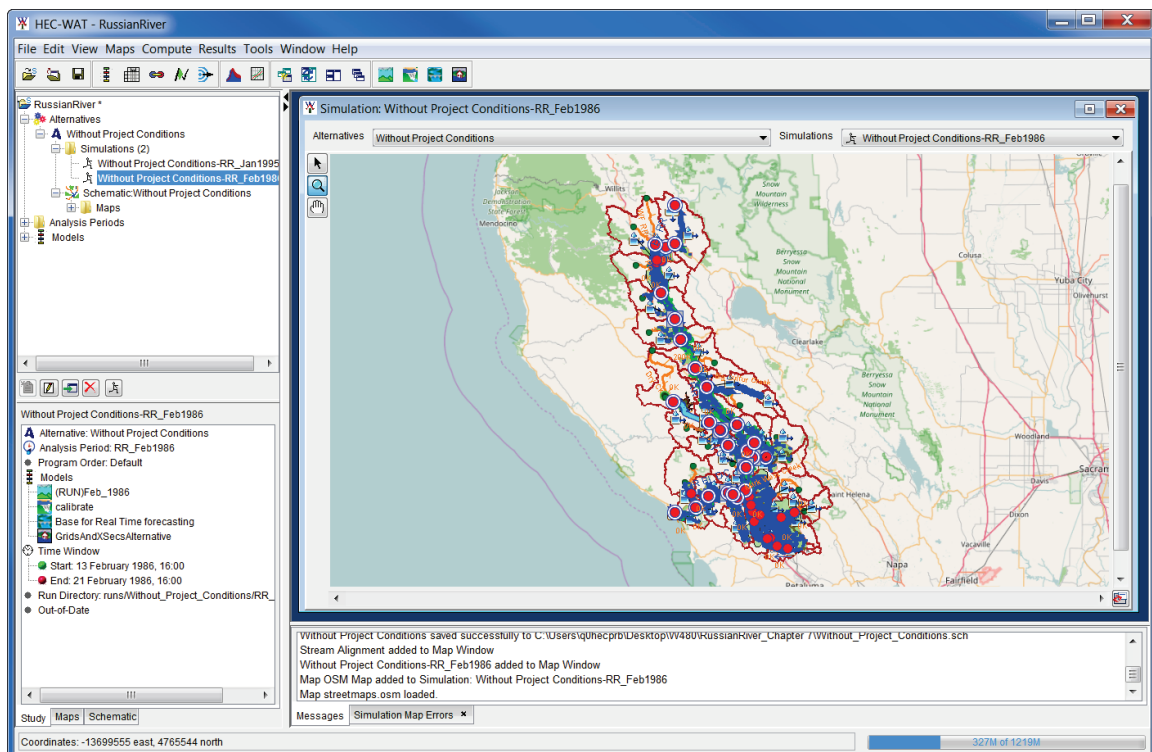
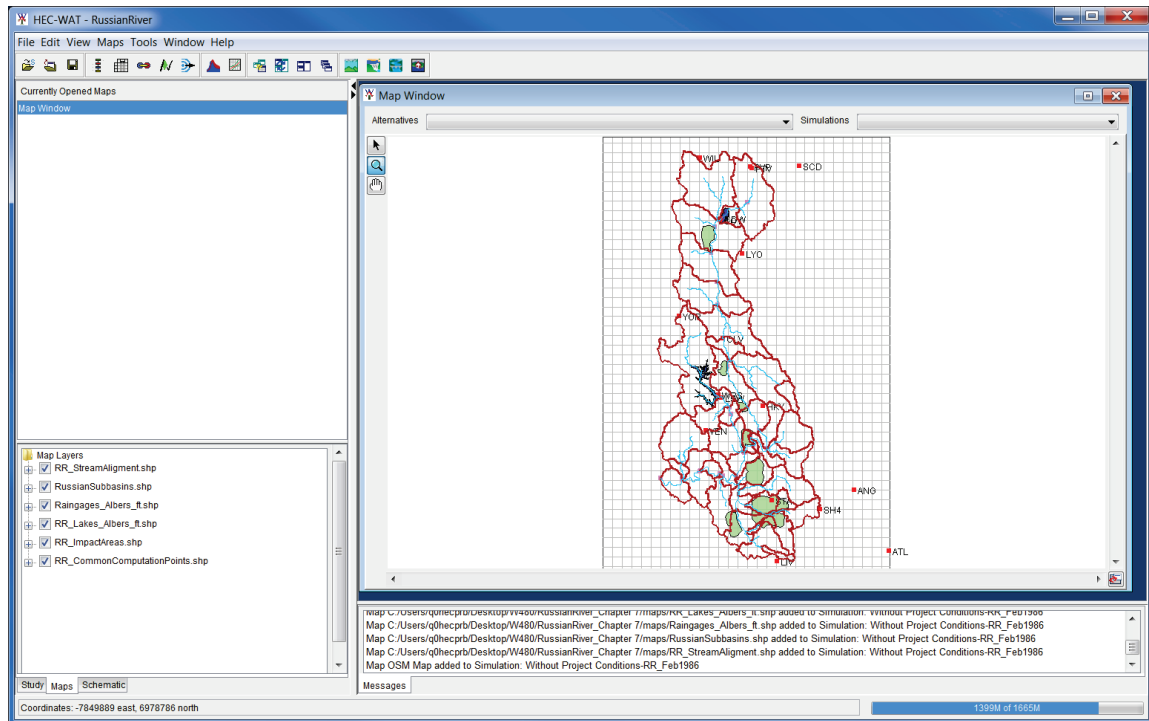
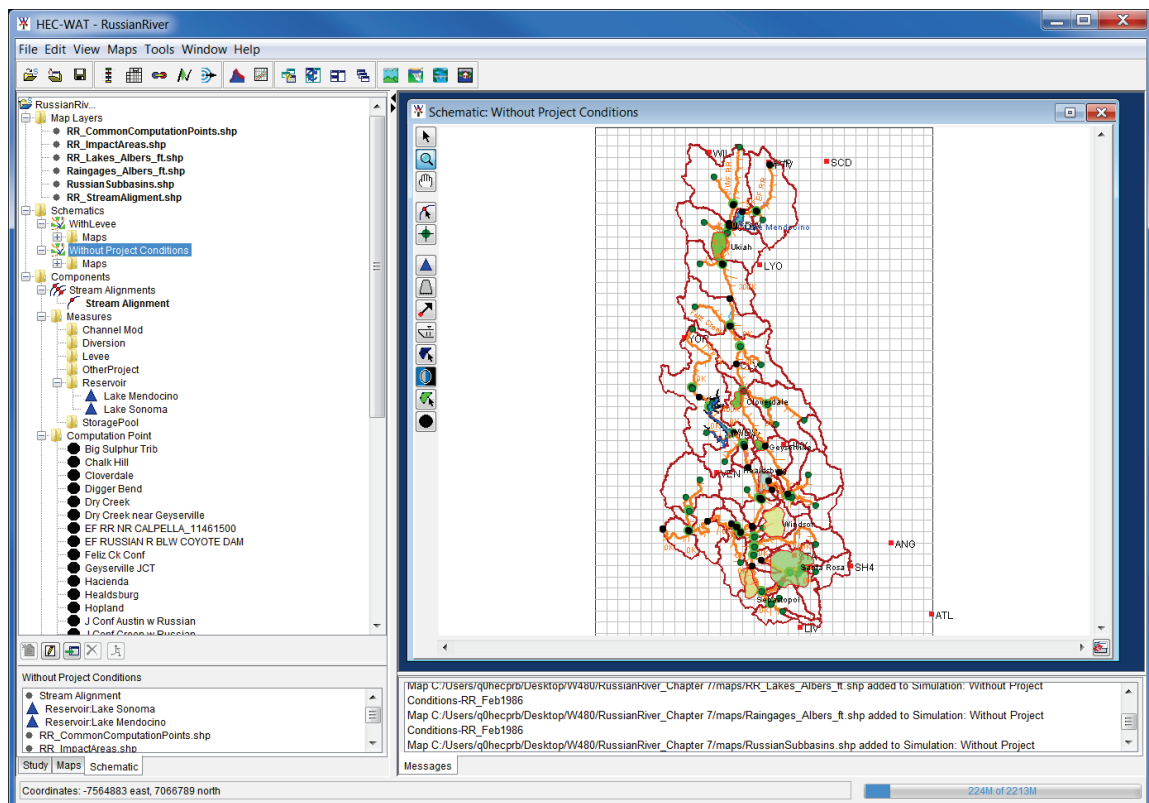

Figure 3.16 Display Simulation Map Window from Study Pane
Figure 3.18 New Map Window
Figure 3.19 New Map Window with Schematic Added
2. For example, in Figure 3.16, from the **Study** tab, double-click on the *Without Project Conditions-RR\_Feb1986* simulation. A map window will open and display the model elements for the simulation *Without Project Conditions-RR\_Feb1986*.
1. From the **Maps** menu, click **New Map Window**, in the **Desktop Pane** a **Map Window** will open (Figure 3.18), with the map layers for the study loaded.
2. From the **Study** and **Schematic** tabs the user can drag-n-drop stream alignments, schematics, alternatives, and simulations on to a new map window. For example, in Figure 3.18, from the **Schematic** tab on the **Study Pane**, click on the *Without Project Conditions* schematic. Holding down the left mouse button, drag the schematic to the map window. Release the mouse key, and the schematic for the *Without Project Conditions* is displayed in the new map window, and the map window will now be a schematic map window (Figure 3.19).
The **Tools** appear in a toolbar on the left side of a **Map Window** (Figure 3.18). The tools change the appearance of the mouse, as well as the functionality of the mouse.
The **Pointer/Selector Tool** is available on all HEC-WAT map windows. For a **Simulation Map Window** (Figure 3.16), with this tool selected the user can right-click on model graphical elements from the schematic displayed in the **Simulation Map Window** and from the shortcut menu view results or edit model elements. When a **New Map Window** (Figure 3.18), an **Alternative Map Window**, or a **Schematic Map Window** (Figure 3.19) are selected, with this tool selected the user can right-click on the map window and from the shortcut menu edit the properties of the map window; zoom to the full extents; duplicate the map window; and, detach the map window.
All of the other tools available from a **Schematic Map Window** (Figure 3.19) are described in Chapter 6, Sections 6.3 and 6.4
HEC-WAT allows the user to detach a map window from the **Desktop Pane**, and then the user can manipulate the map window outside of the HEC-WAT framework. This gives the user the ability to manipulate the map window as needed for better presentation and communication. From a map window (Figure 3.19), in the bottom right corner, there is a **Detach Map Window** tool , click the **Detach Map Window** tool, and the tool changes to , now the user can move the map window anywhere in the available display area. Clicking the **Detach Map Window** tool will return the map window to the **Desktop Pane** on the HEC-WAT main window.
The user can synchronize multiple map windows, which allows a user to review items in one map window and then be able to view the same area of the watershed in another map window. Open multiple map windows (Figure 3.19), for this example, a **Simulation Map Window** and a **Schematic Map Window** have been opened. From the HEC-WAT main window and from the **Window** menu, select **Tile**, the map windows should appear side-by-side as displayed in Figure 3.20. Using the **Zoom** tool in the **Simulation Map Window**, zoom-in on an area of the watershed. From the **Maps** menu, click **Sync Map Windows**. Now the two map windows are synchronized, so any action done by the user in one map window will also happen in the other map windows.
3. The map layers associated with the active map window are listed in the table on the **Map Window Settings** dialog box (Figure 3.21). The user can remove a map layer from the active map window by clicking in the **Selected** column. For example, in Figure 3.19, if the user does not want to display the map layer associated with the impact areas, click the cell in the **Selected** column associated with *RR\_ImpactAreas.shp*. Click **OK**, the **Map Windows Settings** dialog box will close (Figure 3.21), and the map layer will no longer display in the active map window.